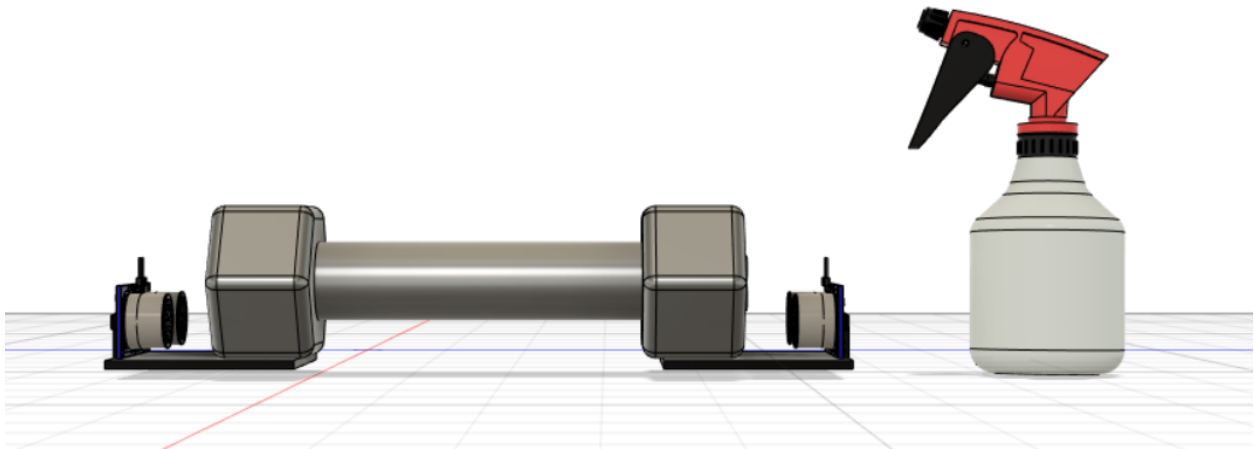

Figure C.5: Spray bottle placed next to dumbbell that needs spraying
5. Place the spray bottle next to the dumbbell and the stands as seen in Figure C.5, a distance of 15 cm works best usually but you should test it beforehand